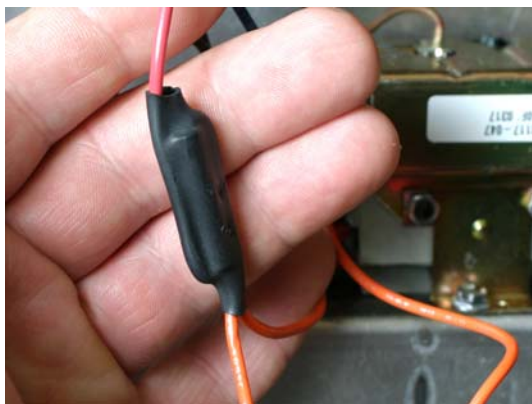

Figure 7: On units with the optional boilout feature, an in-line resistor must be replaced.
10. On fryers with a boilout option, locate the resistor in the potentiometer lead (usually near the hi-limit). See **figure 7**. Remove the protective coating and remove the resistor, which is attached to two wires on one end and one wire at the other. Wire the new resistor in the same manner, using the provided connectors. See **figures 1 and 8**.